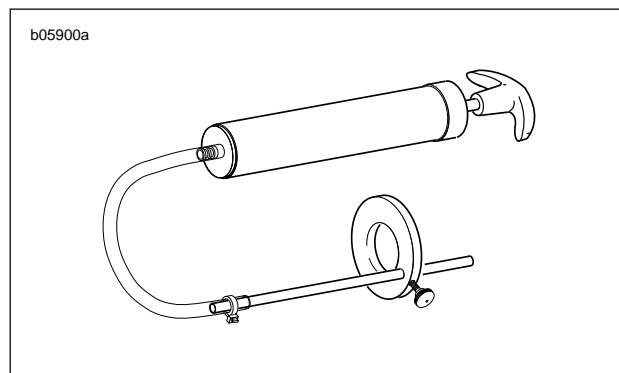

Figure 1-37. Pro Level Oil Gauge
- b. Measure distance from fork oil (4) surface to top of outer tube (1) using **PRO-LEVEL OIL GAUGE** (Part No. B-59000A). See Figure 1-37.